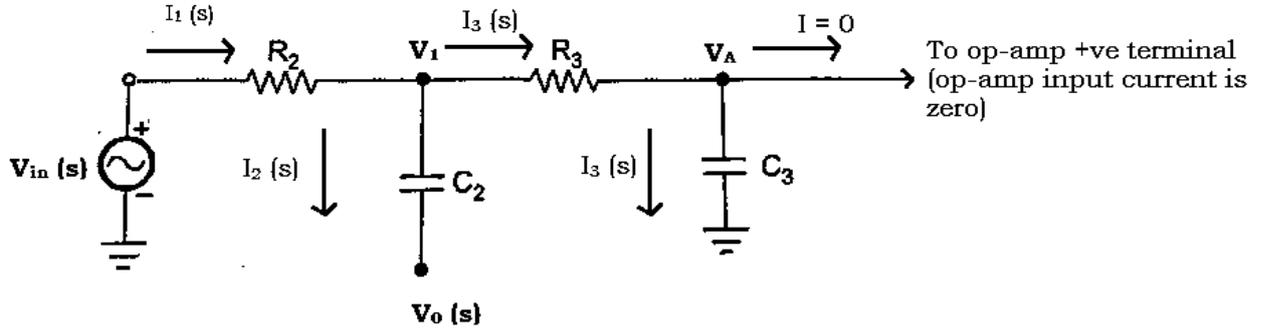

Fig. 3.11 Laplace domain of RC Network
- The input RC network can be represented in the Laplace domain as shown in Fig. 3.11